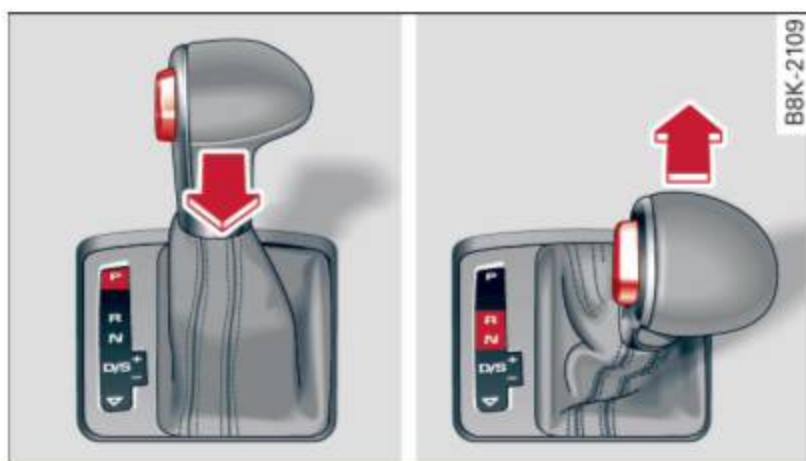

Fig. 84 Shift gate: selector lever lock positions and release button highlighted
- ▶ Step on the brake pedal. *At the same time* press and hold the release button on the side of the gear selector knob ⇒ *fig. 84* with your thumb until you have moved the selector lever to the desired position.
The release button on the selector lever prevents the lever from being accidentally shifted into certain positions. Depending on the direction of the shift, the selector lever locks at different positions. The positions are highlighted in the illustration ⇒ *fig. 84*.